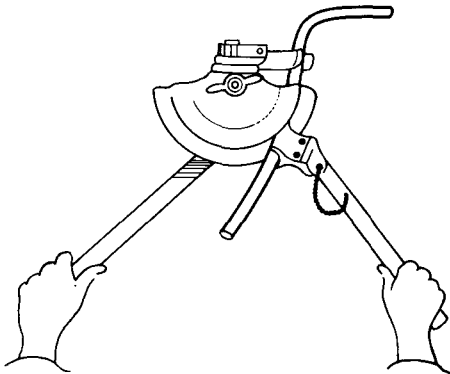
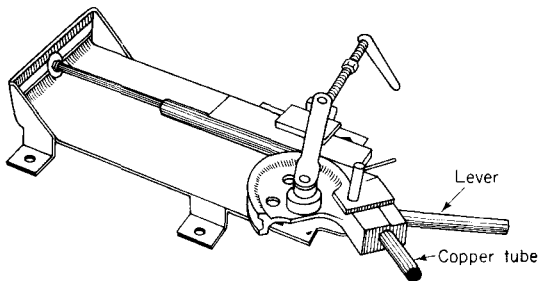

Fig. 4.168 Small hand bending machine
Fig. 4.169 Draw-bar bending machine
**Machine bending.** When a machine is used for bending (Fig. 4.168) special formers or mandrels are used to support the walls of the pipes. Fig. 4.169 shows a small hand bending machine suitable for tubes up to 12 mm diameter.
Fig. 4.169 shows a draw-bar bending machine with a stationary mandrel which is used for making small radius bends.